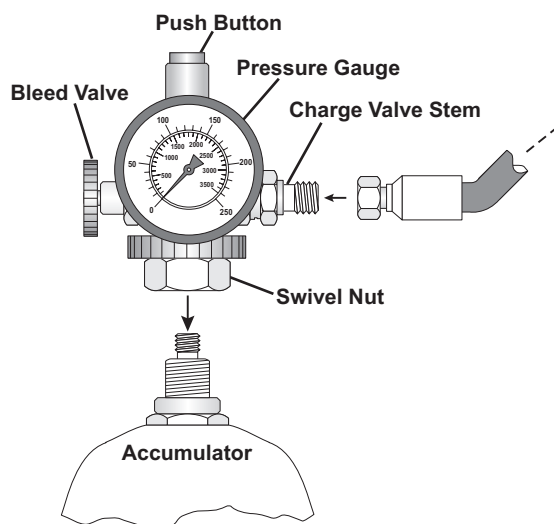

Figure 17
5. Close the bleed valve on the charge valve assembly (turn the valve clockwise until it is all the way in) (Figure 17). If a hose is connected to the charge valve stem, disconnect the hose from the charge valve stem. This step closes the charge valve stem to prevent the gas pressure from escaping out of the hose. It ensures that the initial pressure reading is accurate..
6. Find the swivel nut on the charge valve assembly (Figure 17). Screw the swivel nut onto the accumulator gas valve. Tighten to 10 to 15 in-lbs.
7. After the swivel nut is attached, depress the push button on the top of the charge valve assembly (Figure 17). This presses a pin into the accumulator gas valve and opens it. Read the pressure on the charge valve assembly pressure gauge. The pressure should read 103 bar (1500 psi).